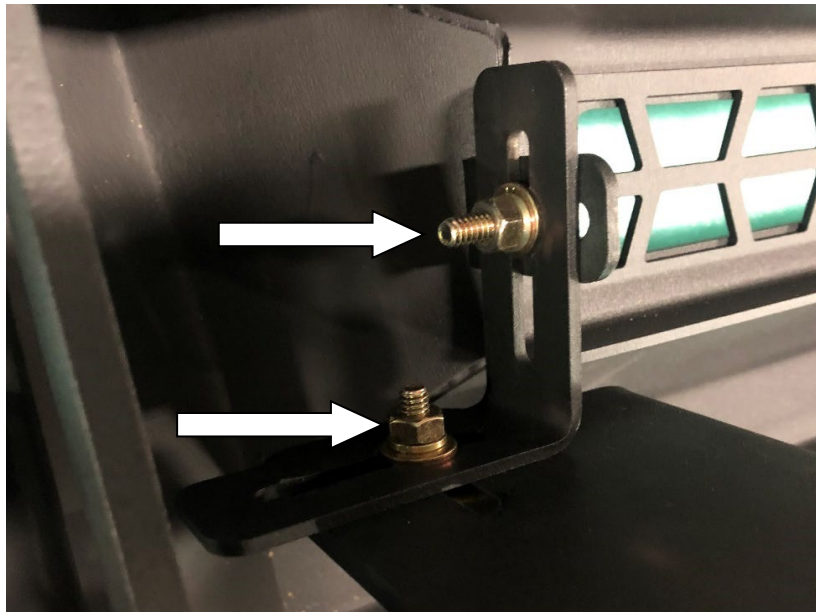

Figure 6
7. Use the provided  $\frac{1}{4}$ " hex head bolts, flat washers and lock washers to install the two (2) L-brackets (22353) and the mesh (22353). (Fig 6)